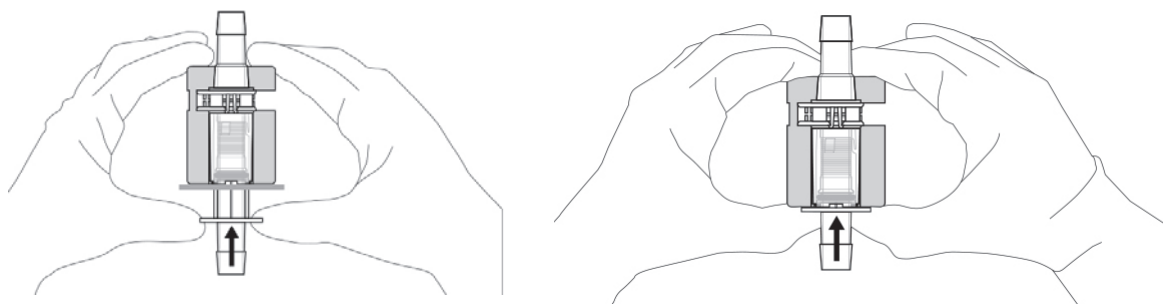

Figure 5.34. Pushing the thumb rest of the connector toward the base of the barrel.
7. With the Kleenpak connector still secured in the assembly aid, push the thumb rest of the male Kleenpak connector toward the base of the barrel (Figure 5.34).